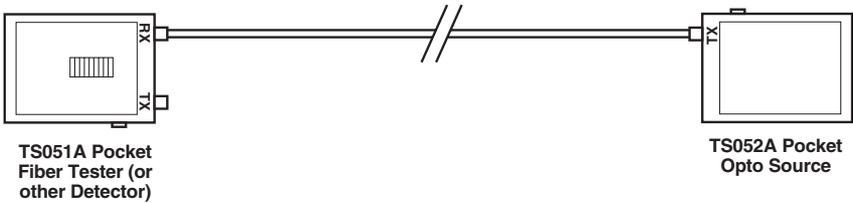

Fig. 3-3. Checking an Installed Cable.
3.4 Using a Tester and a Pocket Opto Source to Check an Installed Cable (Fig. 3-3)